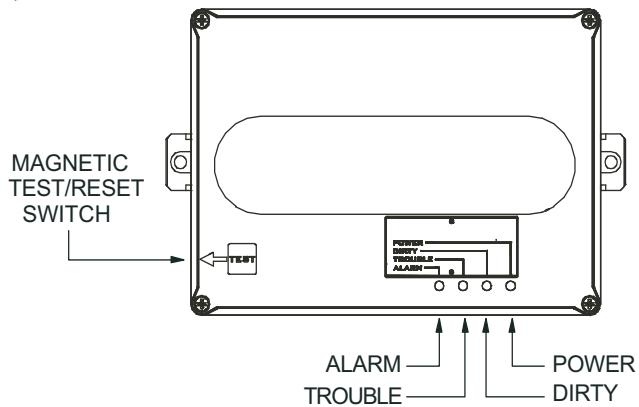

Fig. 7 — Sensor Assembly
1. Locate sensor from the CRSMKSEN002A01 kit (see Fig. 7).
3. Locate sensor from the CRSMKSEN002A01 kit (see Fig. 7).